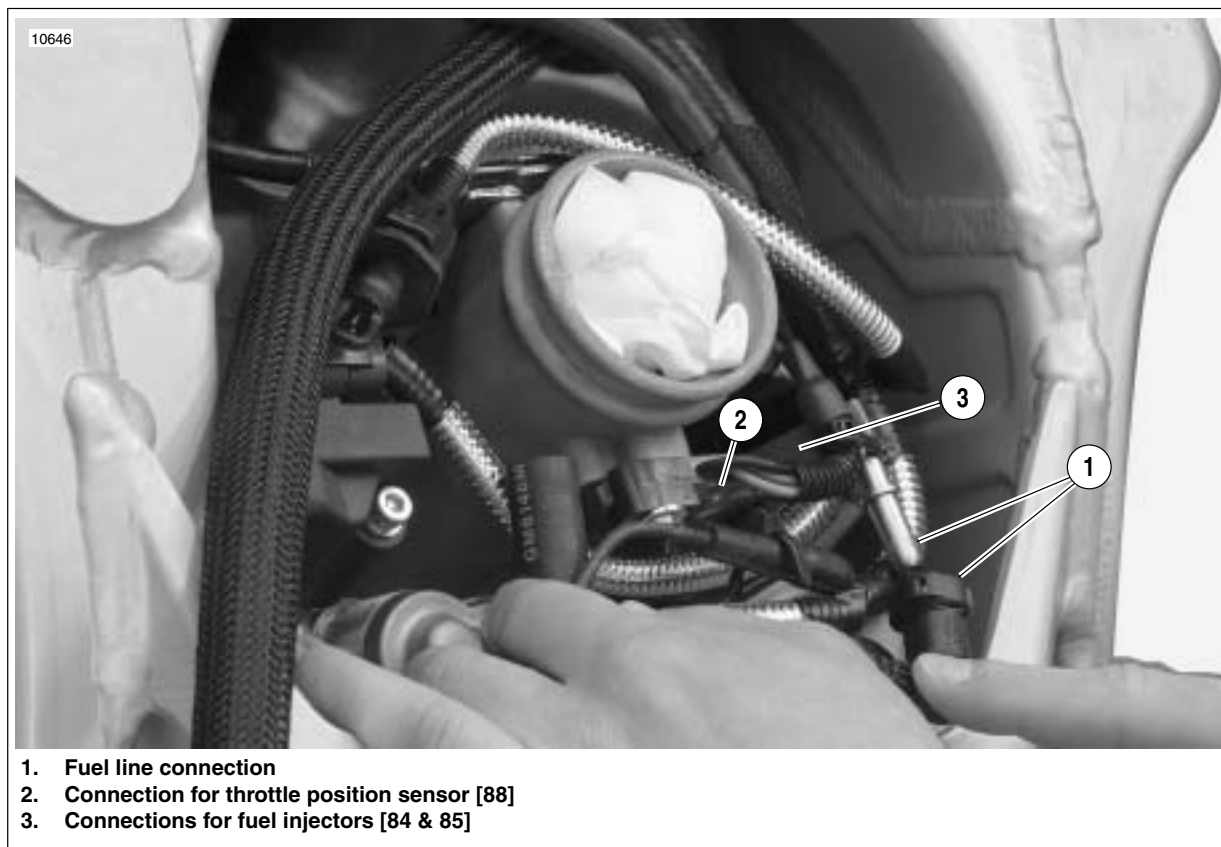

Figure 3-55. Fuel Line and DDFI Electrical Connections (Typical)
40. See Figure 3-55. Connect throttle position sensor [88] (2).
41. Connect fuel injector leads [84 & 85] (3).
42. Connect fuel line (1).